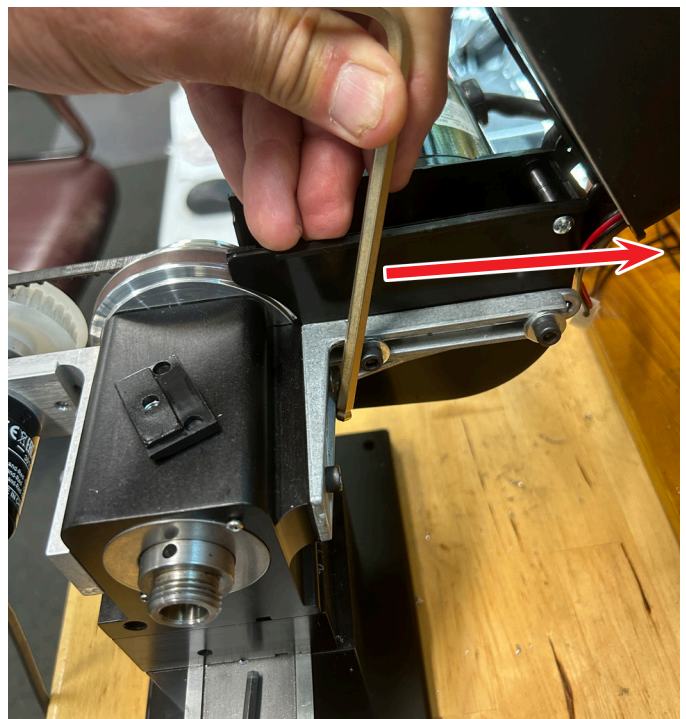

FIGURE 7—Force the motor away from the headstock in the direction of the red arrow.
- F. Place a larger hex wrench (7/32" or 1/4") between the motor bracket and the head of the first motor bracket adjustment screw. Then, using the hex wrench like a pry bar, force the motor away from the headstock to tighten the drive belt (see Figure 7).